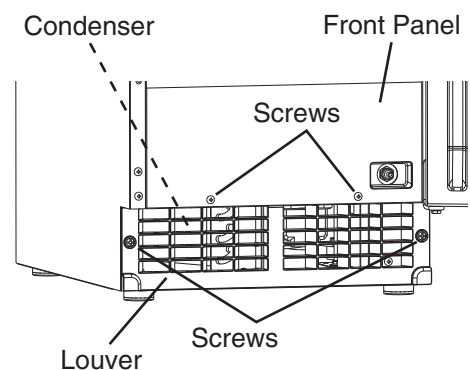

Fig. 40
2) Remove the 2 screws securing the front panel, then remove the panel. See Fig. 40.